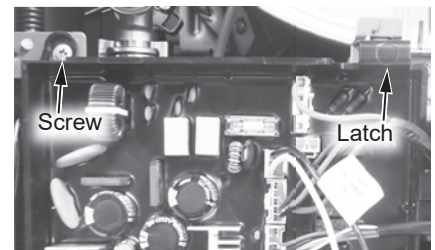

Figure 190 - Control board location
- 11 Locate the two (2) screws at the bottom of the cabinet cover. Use a Phillips screwdriver to remove the screws. Place screws aside in a safe place for reinstallation.
- 13 Locate the screw securing the control board panel as shown in Figure 190. Use a Phillips screwdriver to remove the screw and place it aside in a safe place for reinstallation.